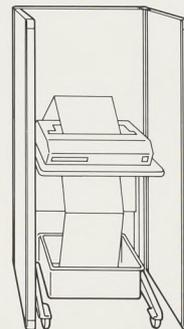

figure 13
- Consider using 80"-high panel enclosures to isolate noisy equipment (see figure 13) or, in some cases, a self-contained Action Office Super Room®. This might be more cost-effective than lowering the noise level of an entire office floor.